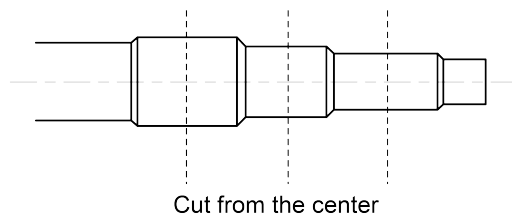

Fig.4.4.3
(2) Manifold has several pipe sections with different pipe size, which facilitates to match with various copper pipe. Use pipe cutter to cut in the middle of the pipe section with different pipe size and deburr as well. See Fig.4.4.3.